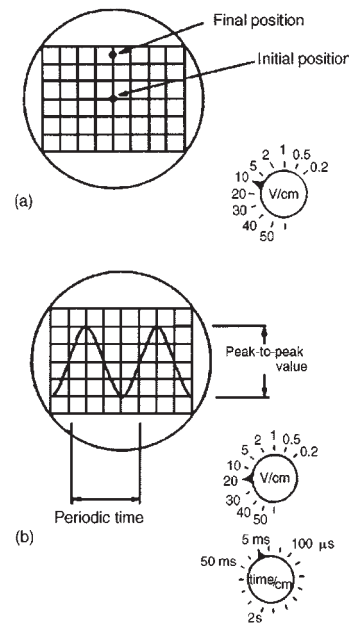

Figure 10.15
- With **direct voltage measurements**, only the Y amplifier 'volts/cm' switch on the oscilloscope is used. With no voltage applied to the Y plates the position of the spot trace on the screen is noted. When a direct voltage is applied to the Y plates the new position of the spot trace is an indication of the magnitude of the voltage. For example, in Fig. 10.15(a), with no voltage applied to the Y plates, the spot trace is in the centre of the screen (initial position) and then the spot trace moves 2.5 cm to the final position shown, on application of a d.c. voltage. With the 'volts/cm' switch on 10 volts/cm the magnitude of the direct voltage is 2.5 cm $\times$ 10 volts/cm, i.e. 25 volts.
- With **alternating voltage measurements**, let a sinusoidal waveform be displayed on an oscilloscope screen as shown in Fig. 10.15(b). If the time/cm switch is on, say, 5 ms/cm then the